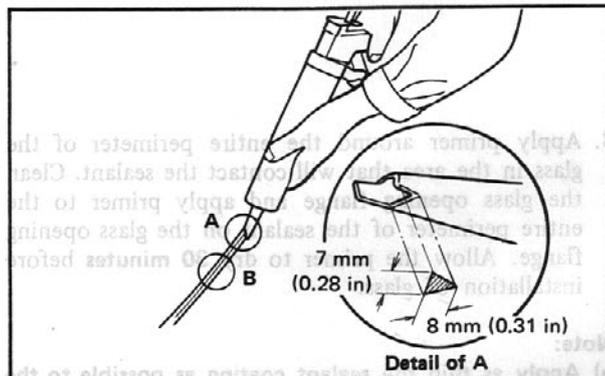

Fig. 14-26
- a) Shape the nozzle of the sealant cartridge with the cutting knife as shown in Fig. 14-26. Then, break the film of the sealant with a piece of wire and it is ready for application.